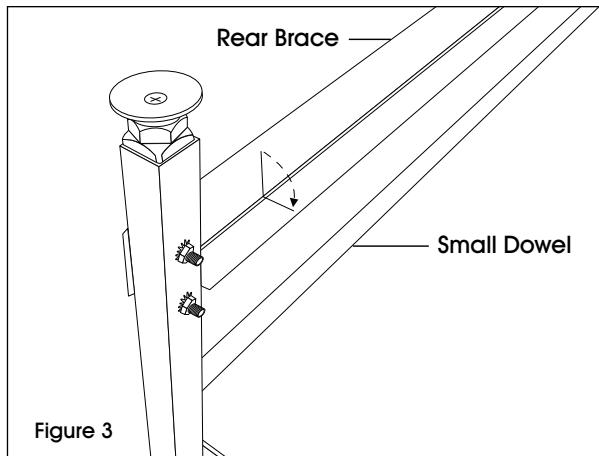

Figure 3
4. Next, attach the rear brace extending from the back of one leg to the other using 1/4 - 20 x 2" hex bolts. Secure with washer and nut. (See Figure 3)